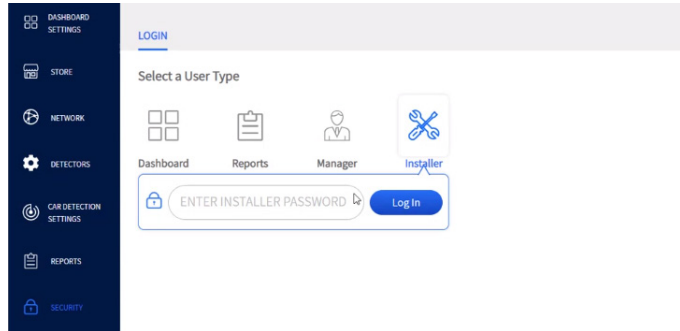

Fig. 5.4
4. Log in as an Installer using the installer password. See Fig. 5.4.